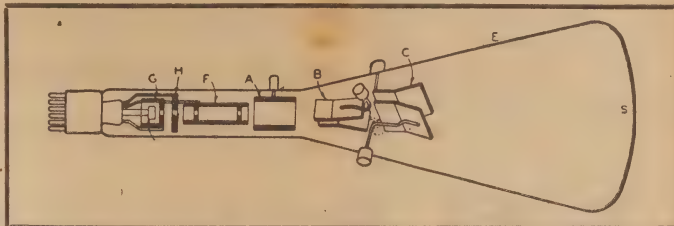

Figure 18: The arrangement of electrodes in a typical cathode-ray tube employing electrostatic focus and deflection.
Figures 18 and 20 illustrate the essential details of practical high-vacuum cathode-ray tubes, using alternative means to focus and deflect the electron beam. Consider first figure 18, illustrating the principle of electrostatic focus and deflection.
In figure 18, this would normally be the electrode F.
Although figure 18 shows three modes of specific shape, it does not allow that all such tubes are built to this exact pattern. The structure may be more simple or more complex, depending on the purpose and ideas of the designer, but the general principles remain the same.
The type of CR tube illustrated in figure 18 is said to employ electrostatic focus, since it depends on the voltage gradient between successive electrodes.
The principle of electrostatic deflection is assumed in the illustration, figure 18. Two pairs of flat plates shown as B and C are mounted in front of the final anode (A). Their initial d-c potential is normally the same as (A).